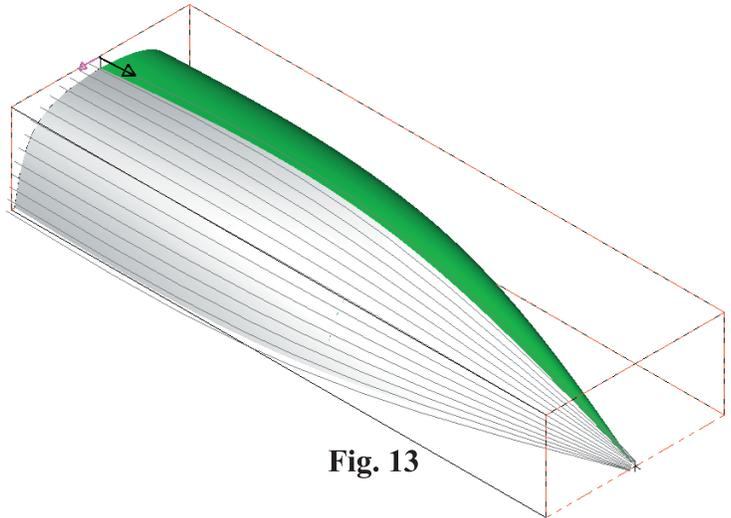

Fig. 13
Step 21. Cut Direction. Click until the gray lines are running parallel to the length of the boat, **Fig. 13**.